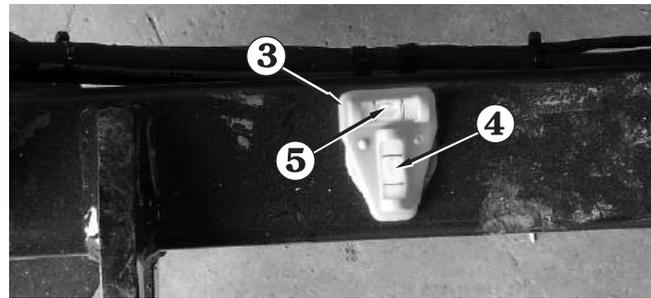
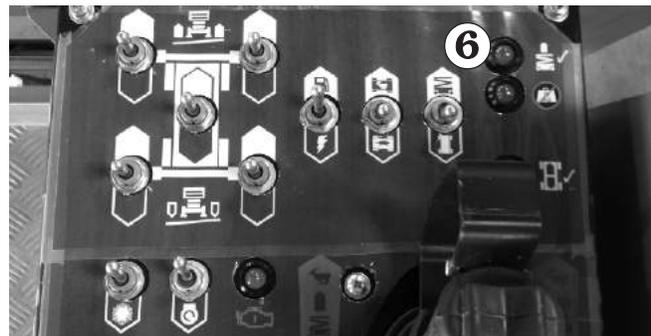

Figure 8.13
Figure 8.14
3. Visually check the bubble level ③ to determine which stabilisers must be further extended to level the platform (see Figure 8.13).
4. Lower the appropriate stabilisers just enough to center the bubbles ④ and ⑤ (see Figure 8.13). When the **Lift Indicator Light** ⑥ (see Figure 8.14) comes on, the platform can be safely raised.